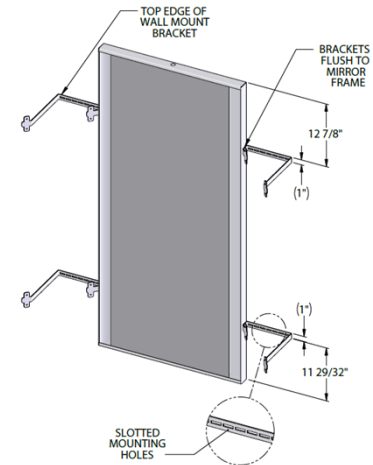

Figure 13
1. With Admire Mirror pre-installed, measure down from the top surface of the Admire Mirror making one small pencil location mark at 12-7/8". Then measure up from the bottom edge and make a mark at 11-29/32". Using a carpenter's square, draw a perpendicular line from the side of the Admire Mirror at each of the pencil location marks. **Note:** the perpendicular line will be used for lining up the top edge of the wall mount brackets. **See Figure 13**
2. Locate the top edge of the wall mount bracket flush with the perpendicular lines and flush to the side of the Admire Mirror. Once located, fasten each wall mount bracket through the slotted mounting holes using fasteners with a minimum pullout rating of 75lbs per fastener (obtain locally). **See Figure 13**